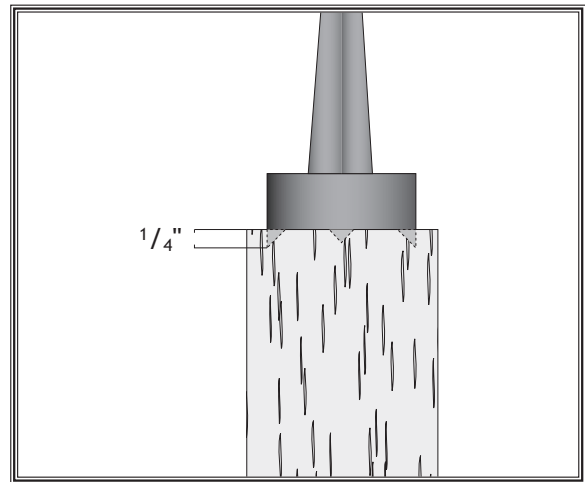

Figure 27. Spur center properly embedded.
6. Drive spur center into end center mark of workpiece with a wood mallet to embed it at least 1/4" into workpiece, as shown in **Figure 27**.